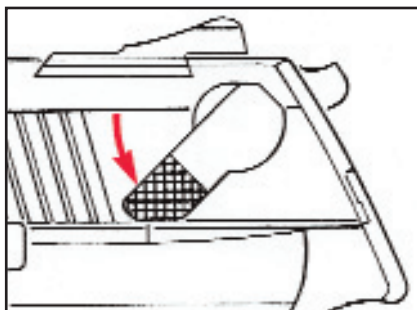
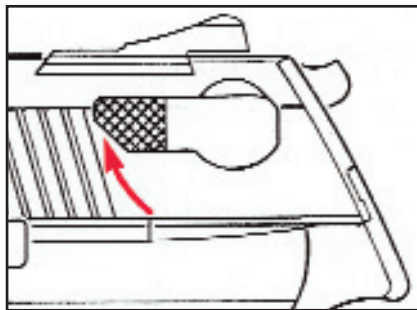

FIGURE 2
FIGURE 3
To decock the pistol, **point the pistol in a safe direction**. Depress the decocking lever until the hammer drops. The decocking lever first moves the firing pin into the slide far enough so that the rear end of the firing pin cannot be struck by the hammer. Only then will continued depression of the decocking lever safely drop the hammer to an uncocked position (see Figure 2, below). **To return the pistol to firing condition, simply release the decocking lever (see Figure 3, below). It will spring upward to its original position. The pistol is then ready to fire by a “double-action” pull of the trigger.** The hammer can also be manually cocked immediately before shooting a “single-action” firing. The trigger pull is both shorter and relatively lighter in the “single-action” mode, which is preferred for more accurate shooting.
1. The muzzle of the pistol must be pointing in a safe direction at all times, and fingers should be outside of the trigger guard. Decock the pistol by depressing the decocking lever until the hammer drops (see Figure 2, p. 11).